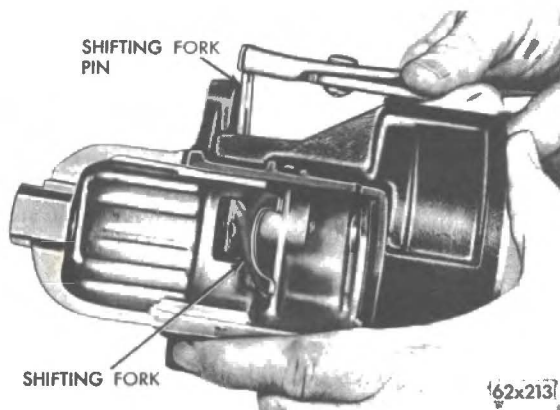

Fig. 19 Removing Shifting Fork Pin
(24) Remove the shifting fork retainer pin (See Fig. 19) and remove the clutch shifting fork assembly.
(25) The gear housing is serviced with the pinion shaft and armature shaft bushings as an assembly.
(1) Position the shifter fork in the drive housing and install the shifting fork retainer pin (See Fig. 19). One tip of pin should be straight, the other tip should be bent at a 15° angle away from the housing. Fork and retainer pin should operate freely after bending the tip of pin.